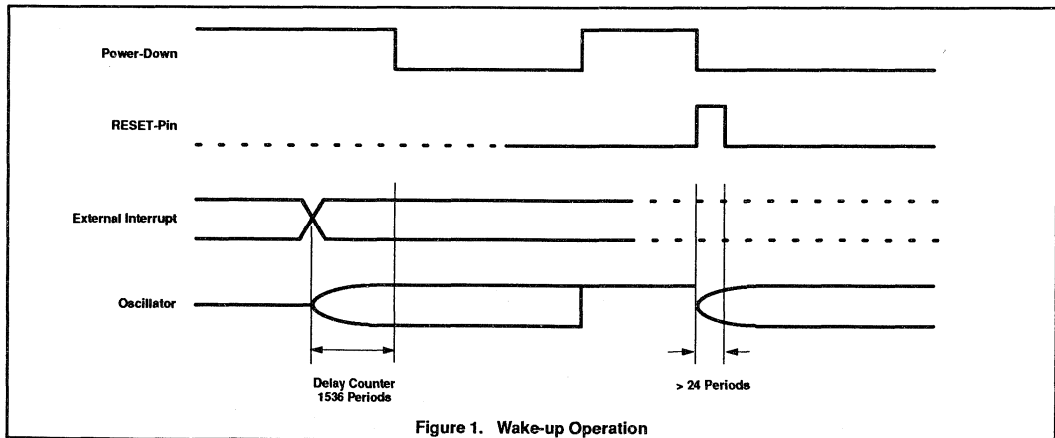

Figure 1. Wake-up Operation
To be able to wake up the part from the power-down state with an external interrupt, both the PD and IDL bits of the PCON register must be set when entering the power-down mode. If only the PD bit is set, the power-down mode will only be terminated by a hardware reset. With both bits set, an interrupt on any of the additional external interrupts, INT2-INT9, will cause the part to wake up. To ensure that the oscillator is stable before the controller restarts, the internal clock will remain inactive for 1536 oscillator periods after the interrupt is detected. After this, the PD flag will be reset, and the part will be in the idle mode, and the interrupt will be handled in the normal way. Figure 1 shows the different oscillator delays
The pins of port 1, port 2, and port 3 may be individually configured with one of the following port options (see Figure 1):
- Option 1: **Standard Port**—quasi-bidirectional I/O with pull-up. The strong booster pull-up p1 is turned on for two oscillator periods after a 0-to-1 transition in the port latch. See Figure 1(a).
- Option 2: **Open Drain**—quasi-bidirectional I/O with n-channel open drain output. Use as an output requires the connection of an external pull-up resistor. See Figure 1(b).
- Option 3: **Push-Pull**—output with drive capability in both polarities. Under this option, pins can only be used as outputs. See Figure 1(c).
Option 2: **Open drain**—quasi-bidirectional I/O with n-channel open drain output. Use as an output requires the connection of an external pull-up resistor. See Figure 1(c).